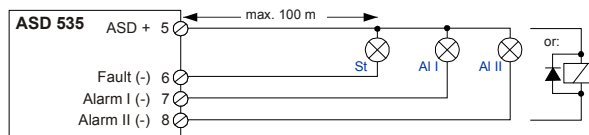

Fig. 26 Wiring the OC outputs
- When connecting inductive consumers (e.g. relays), a freewheel diode is to be installed directly at the consumer, **Fig. 26**.